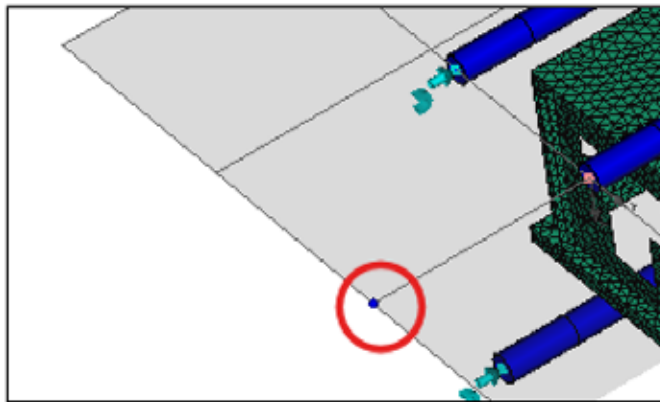

Figure 65: Point where to move the end cooling channel node
- The program will display a dark blue point at the location where the node will be moved. See this blue point in Figure 65 highlighted by a circle.